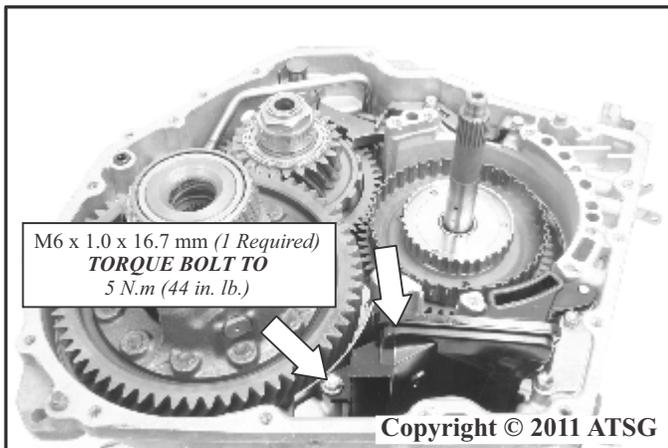

Figure 241
72. Install the transmission fluid filter into the case as shown in Figure 241.
74. Install the transmission fluid filter retaining bolt *M6 x 1.0 x 16.7 mm* as shown in Figure 241.
75. Torque the transmission fluid filter retaining bolt to *5 N.m (44 in. lb.)* as shown in Figure 241.